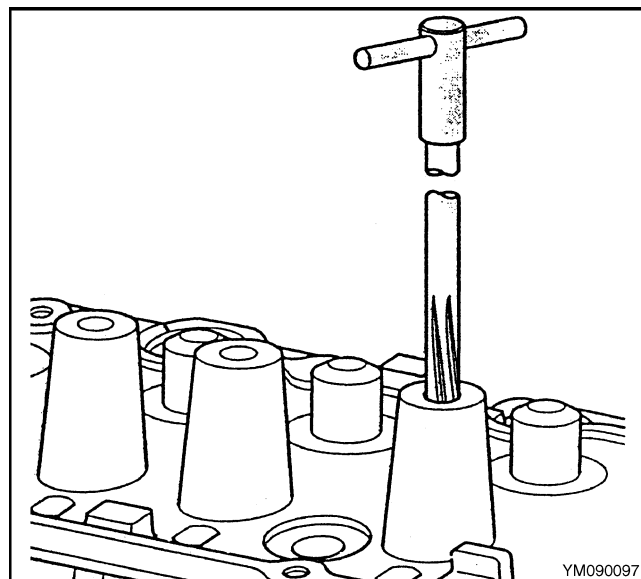

Figure 17. Ream Stud Hole
2. Use a reamer of the correct size for the new oversized stud. Apply SAE 90 lubricant to the new stud during installation. See Figure 17.